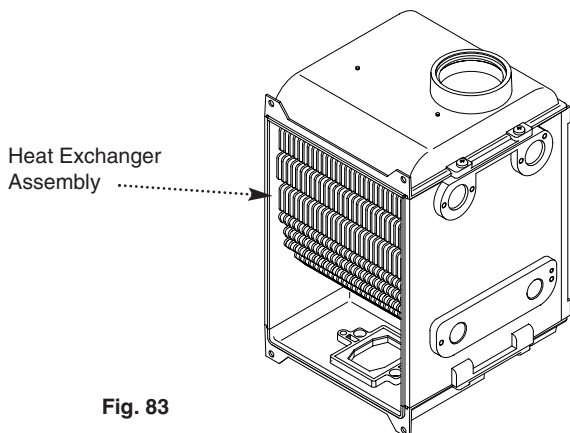

Fig. 83
7. Lift the heat exchanger assembly (Fig. 83) and rotate the bottom upwards whilst pulling it forwards out of the airbox.